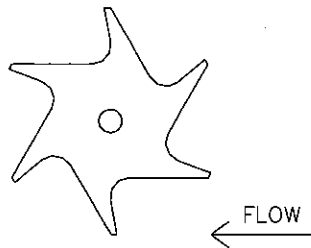

Figure 1-10 Impeller Orientation
12. Rotate the rod so that the alignment holes are parallel with the pipe and the 1/16 inch (1.6 millimeter) upstream indicator hole is located at the upstream end of the pipe. The flow should be directed into the impeller cup (Figure 1-10).
21. Rotate the rod so that the alignment holes are parallel with the pipe and the 1/16-inch (1.6-millimeter) upstream indicator hole is located at the upstream end of the pipe. The flow should be directed into the impeller cup (Figure 1-10).
5. Position the new impeller in the impeller housing such that the fluid would strike into the "cups" of the impeller (Figure 1-10) whenever the sensor body is correctly oriented to the flow.